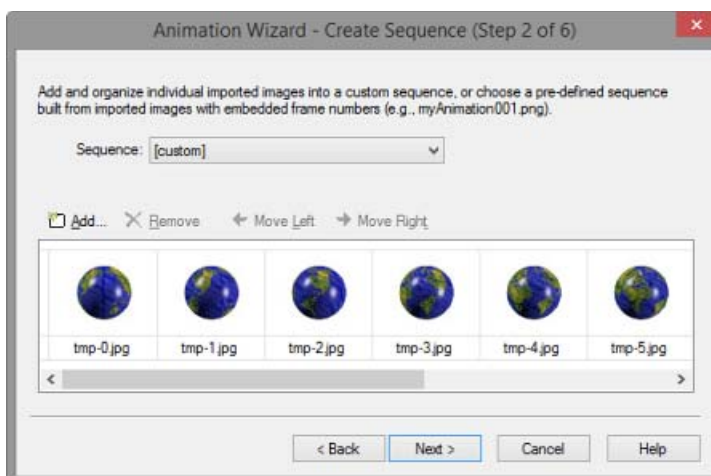

FIG. 303 Animation Wizard - Select Type (Step 2 of 6) dialog - with images added
4. Click **OK** in the *Select Resource* dialog to return to the *Animation Wizard - Create Sequence (Step 2 of 6)* dialog. The image files you selected now appear in alpha-numeric order in the preview window of this dialog. If the images were named consecutively, you shouldn't have to modify the sequence at all (FIG. 303):